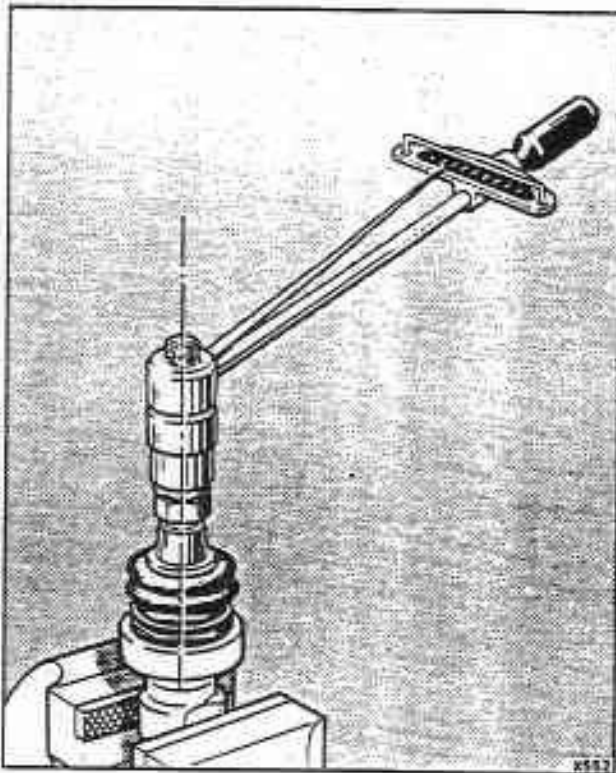

Fig. H3-6 Checking the ball joint pre-load
2. Hold the ball joint housing in a vice. Screw the new ball pin assembly into the housing without fitting the pre-load shims. Fit and lock together two nuts onto the ball pin. (see fig. H3-6).